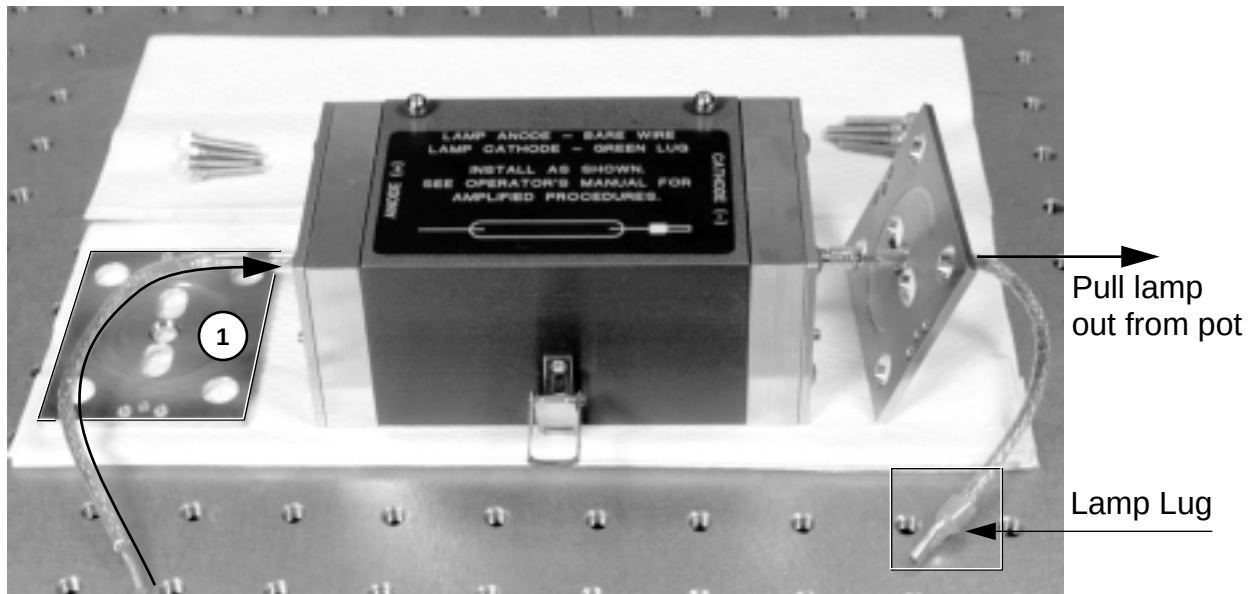
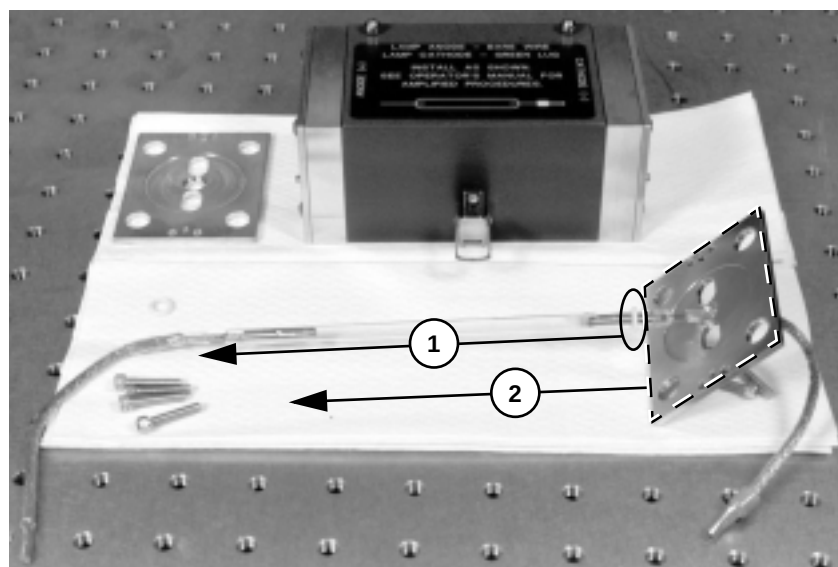

Figure 6-8. POT with the Left Endplate Removed
Figure 6-9. Remove the O-ring and the Endplate as Shown
8. Remove the left endplate, 1 in Figure 6-8. Note that because of the lug attached to the flash lamp lead on the right side the lamp must be taken out of the pot before the right endplate can be removed, 2 in Figure 6-9.
10. Slide the flash lamp out of the POT to the right, Figure 6-8. Slide off the remaining O-ring and thereafter the second endplate, 1 and 2 in Figure 6-9, respectively.